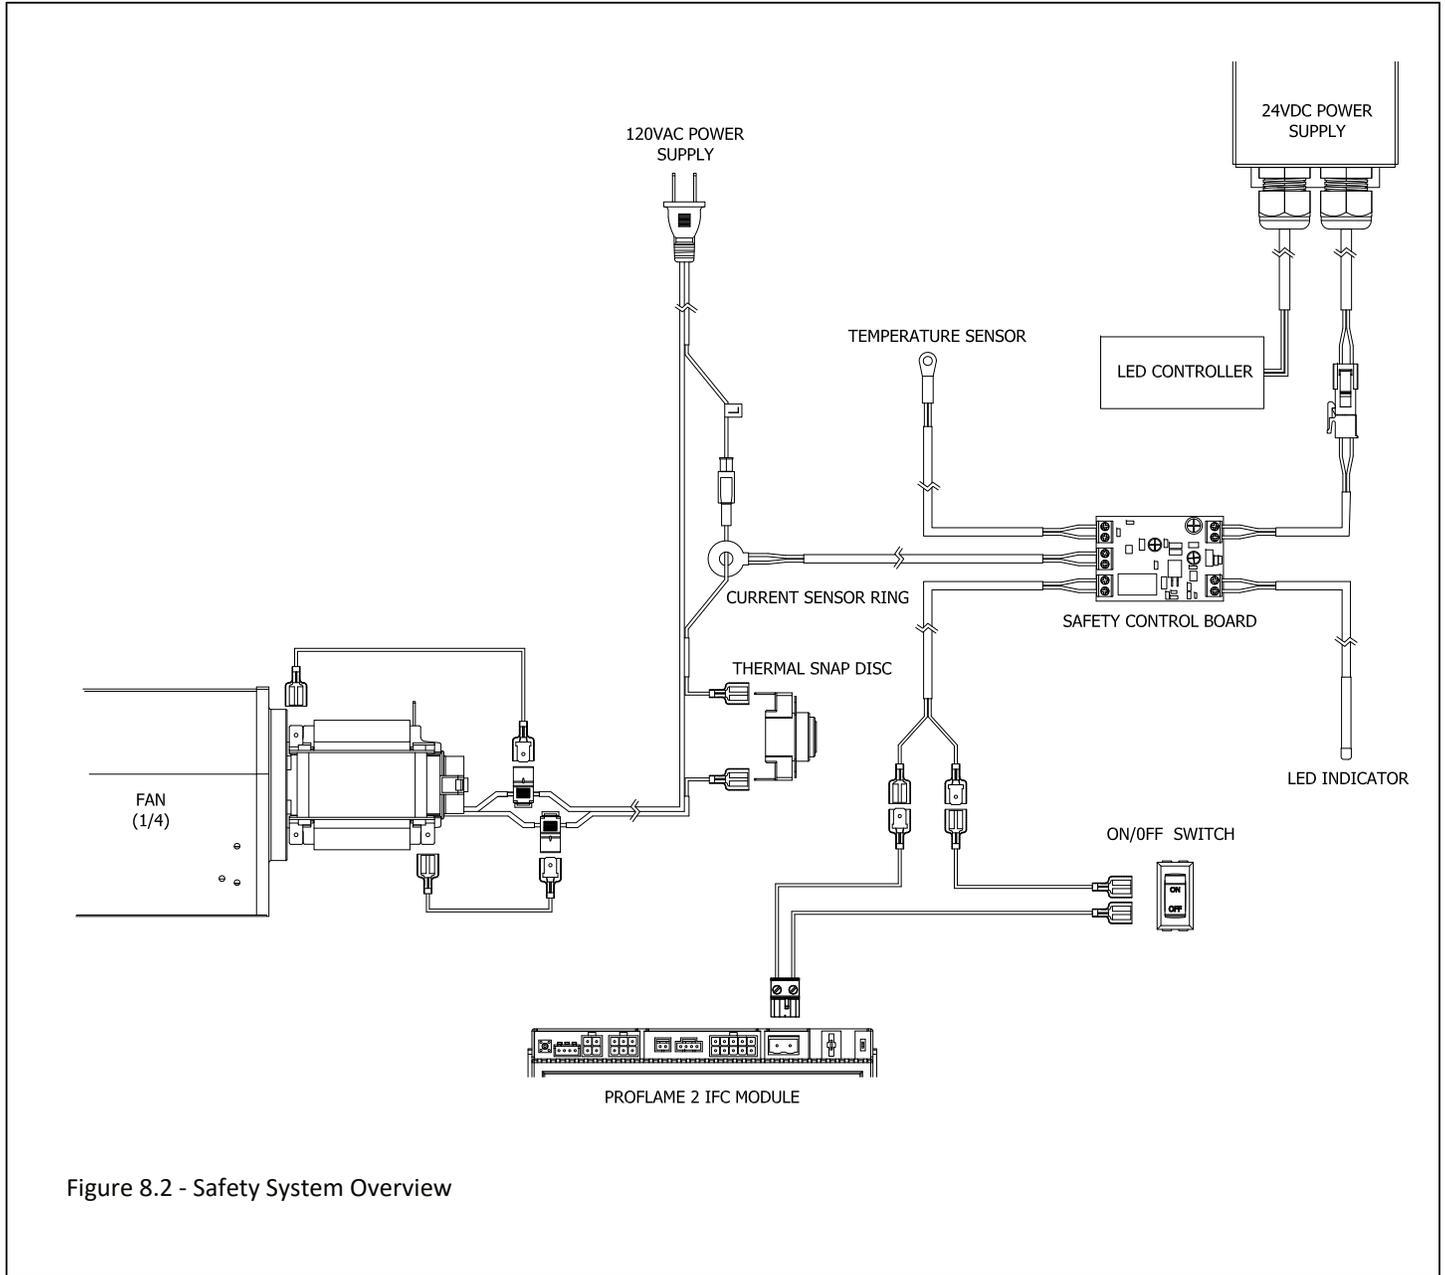

Figure 8.2 - Safety System Overview
3. Disconnect the wiring lead from the safety system to the on/off switch wiring. Figure 8.2.